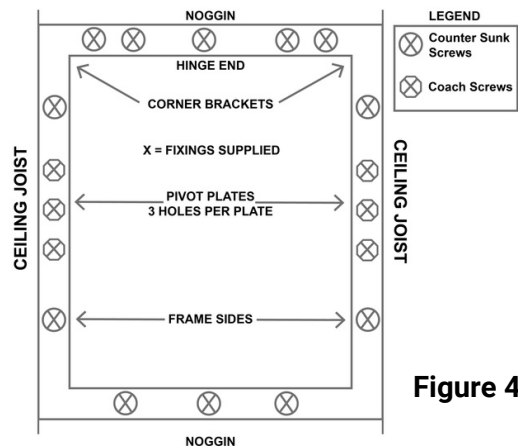

Figure 4
9. Once the folding attic ladder is positioned as desired, final screwing should be done through the folding attic ladder frame (see Figure 4 on page 5).